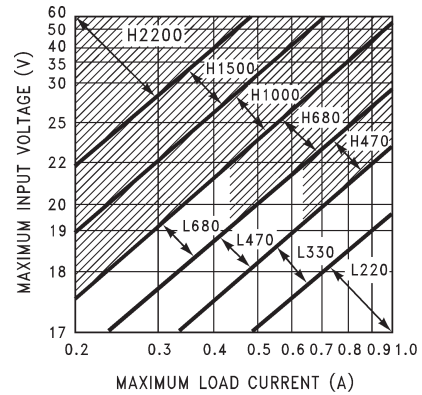

Figure 16. TL2575-15
1. Inductor Selection (L1) A. From Figure 13 through Figure 16 , select the appropriate inductor code based on the intersection of V _{IN(Max)} and I _{LOAD(Max)} . B. The inductor chosen should be rated for operation at 52-kHz and have a current rating of at least 1.15 × I _{LOAD(Max)} to allow for the ripple current. The actual peak current in L1 (in normal operation) can be calculated as follows: $I_{L1(pk)} = I_{LOAD(Max)} + (V_{IN} - V_{OUT}) \times t_{on} / 2L1$ Where $t_{on} = V_{OUT} / V_{IN} \times (1 / f_{osc})$	1. Inductor Selection (L1) A. From Figure 14 (TL2575-05), the intersection of 20-V line and 1-A line gives an inductor code of L330. B. L330 → L1 = 330 µH Choose from: 34042 (Schott) PE-52627 (Pulse Engineering) RL1952 (Renco)